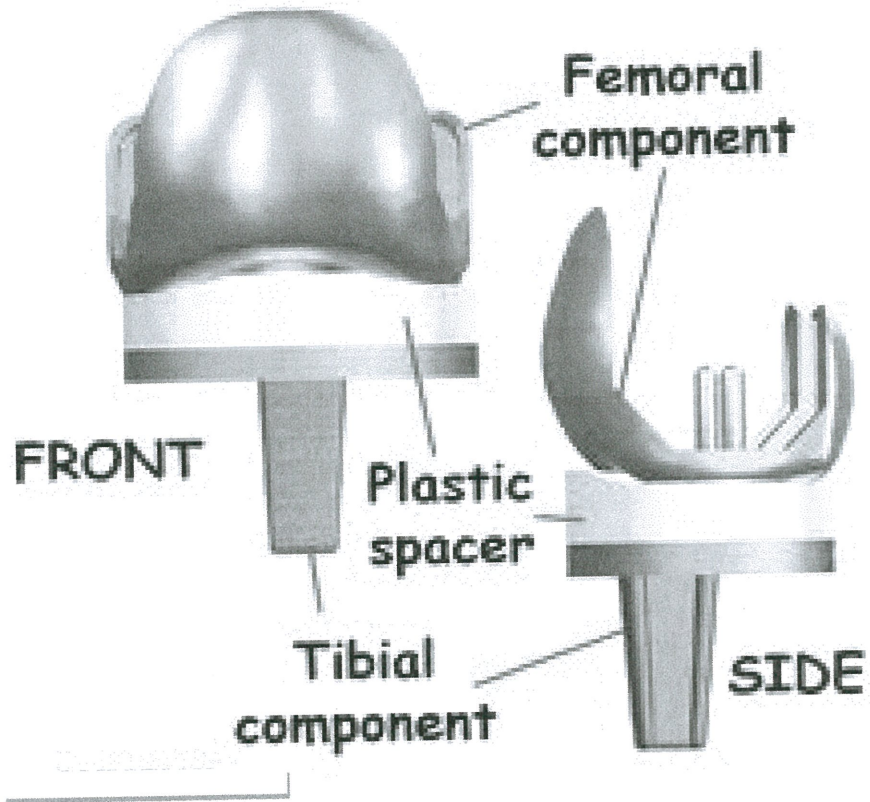

FIGURE Q3 (c)
- Q2** (a) List and explain **THREE (3)** components of laser delivery system. (6 marks)
- (c) **Figure Q3 (c)** shows examples of artificial parts knee component for surgery knee replacement. Recommend a modern manufacturing process that capable to produce them Justify your answer with possible consideration. (10 marks)
- Q5** (a) Identify at least **FOUR (4)** parameters that effect the machining characteristics in Electron Beam Machining (EBM). (4 marks)